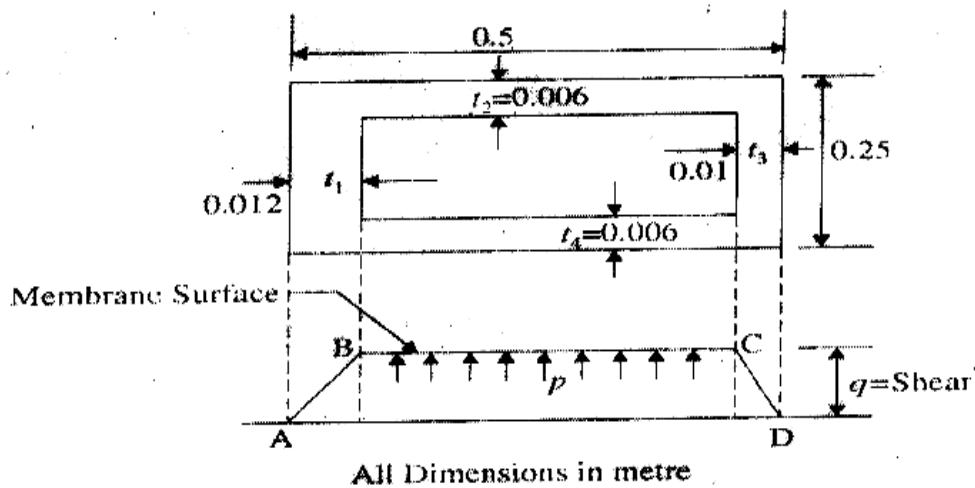

Figure 8b
- b. A hollow Aluminium tube of rectangular cross section shown in Fig. 8b is subjected to a torque of 56,500 N-m along its longitudinal axis. Determine the shearing stresses and the angle of twist.  $G = 27.6$  GPa. 6